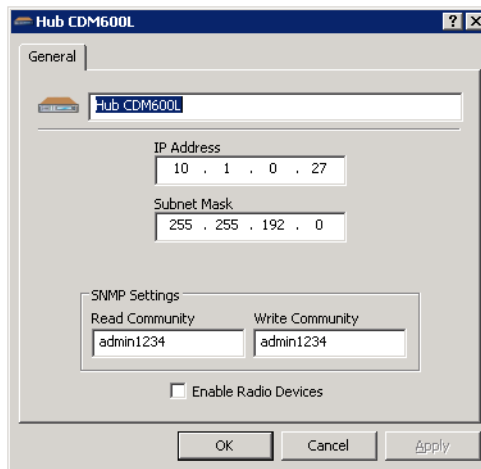

Figure 6-5 CDM-600L properties screen
5. The unit will now appear listed in the SNMP Modem Manager. Right click on the added unit and select **Properties** from the drop down menu to display the **General** tab shown in figure 6-5.